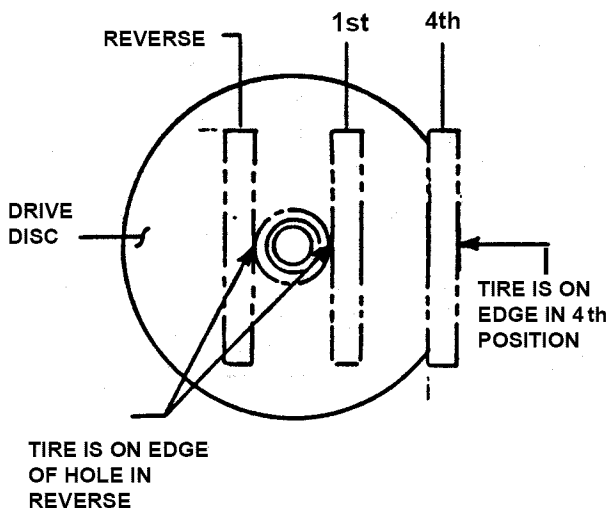

FIGURE 4.9
4. Check drive system to insure the rubber drive tire has full contact with drive disc. Shift through all speeds and note the position of rubber drive tire on the drive disc. See Figure 4.9.